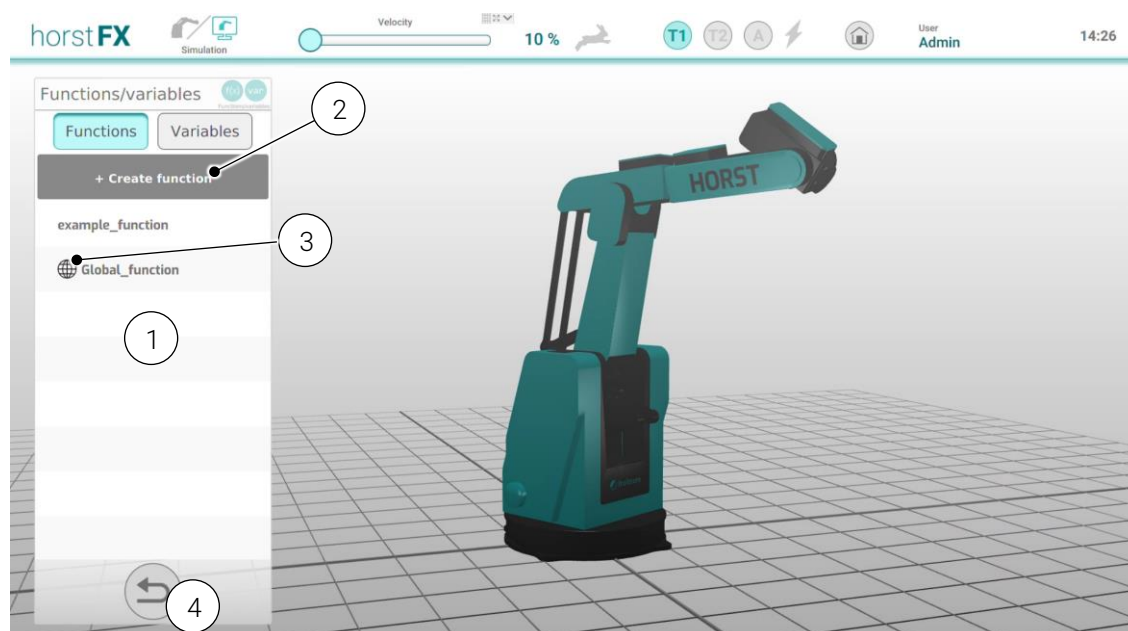

Fig. 6-53: Functions list
By tapping the **Functions/Variables** buttons (1) in the programming view, the program tree is replaced by a list of all existing functions (see Fig. 6-53).